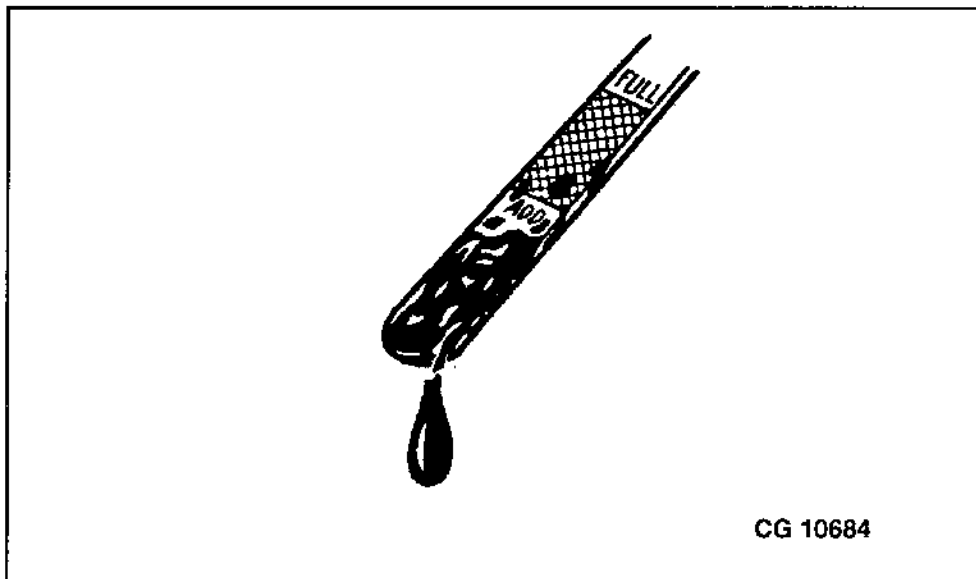

Figure 6-1 Checking Oil Level
2. Check that the engine crankcase is filled to the proper oil level and with the proper grade of oil for the prevailing temperature. See Figure 6-1. Refer to section 7.9.2.